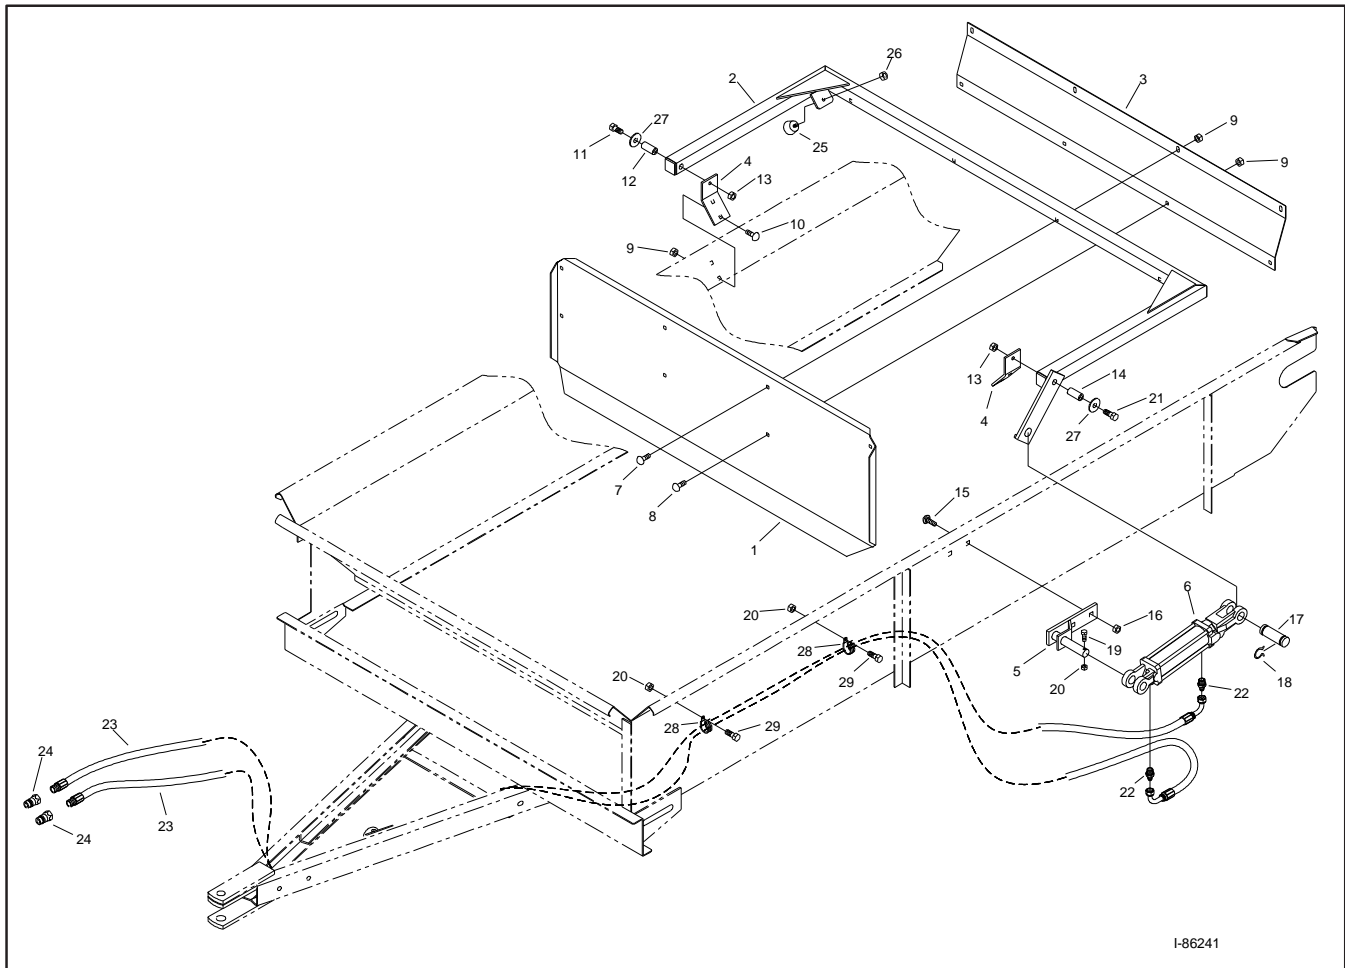

Figure B1 - Hydraulic Endgate Parts Detail
1. Install the two (2) endgate mounting plates (**item #4**) on the inside of the spreader box, using the nuts and bolts provided. Note that the upper half of each bracket will extend above the top of the spreader box.
3. Refer to Figure B1. Mount the endgate (**item #1**) on the frame, using the four (4) 3/8 x 2-1/2" carriage bolts provided.
5. Thread the four (4) 3/8 x 3/4" carriage bolts (**item #8**) through the lower set of holes in the endgate and the endgate brace. Assemble the 3/8" flange nuts onto the bolts.
9. Assemble the hydraulic cylinder (**item #6**) onto the mounting bracket. Use the 1/4" bolt and lock nut to secure as shown in Figure B1.
11. Run the hydraulic hoses through the clamps (**item #28**) on the side of the spreader box as shown. Then, thread the hoses through the channel in the hitch and UP between the hitch members (above the hitch connection) as shown in Figure B1.
**ATTENTION:** Ensure that the hydraulic hoses are installed as shown in Figure B1. Failure to do so may result in damage to the hoses.